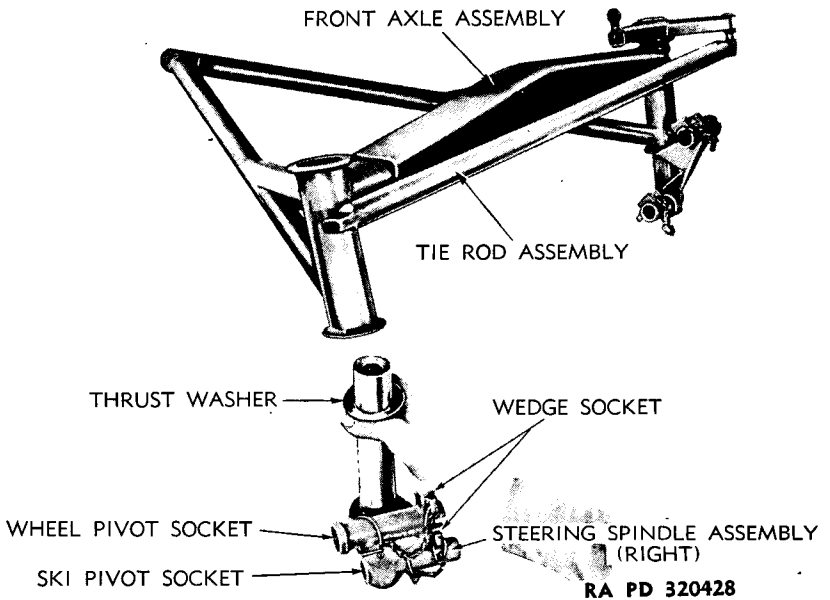

Figure 18 — Right Steering Spindle Removed
b. Remove Steering Spindle Assembly. Lift up front axle assembly until steering spindle assembly can be removed from bottom (fig. 18). Remove thrust washer from spindle. Unhook and remove pivot wedge chains from spindle. Left spindle will be removed in same manner.
a. **Install Steering Spindles.** Install steering spindle thrust washer over shanks of steering spindles. Hold a steering spindle in hand with shank up, wheel pivot socket of spindle toward operator, and wedge socket to right; this will denote the right-hand spindle (fig. 18). Install spindle up through right end of axle. The left spindle can be identified in same manner, but the wedge sockets will be at left of person holding spindle.